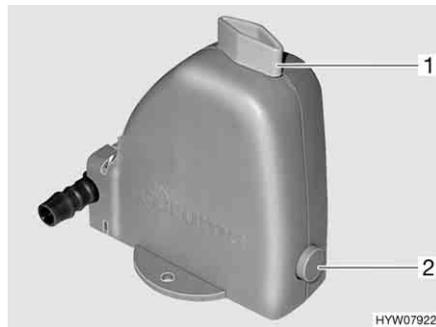

Fig. 167 Safety/drainage valve of the boiler
The boiler is equipped with a safety/drainage valve (Fig. 167). The safety/drainage valve prevents water in the boiler from freezing, when there is frost and the heater is not switched on.
- Close the safety/drainage valve. Turn the knob (Fig. 167,1) perpendicular to the safety/drainage valve and push the push button (Fig. 167,2) in.
- Open the safety/drainage valve. To do this turn the knob (Fig. 167,1) parallel to the safety/drainage valve. The push button (Fig. 167,2) jumps out. The boiler is drained to the outside by the safety/drainage valve.